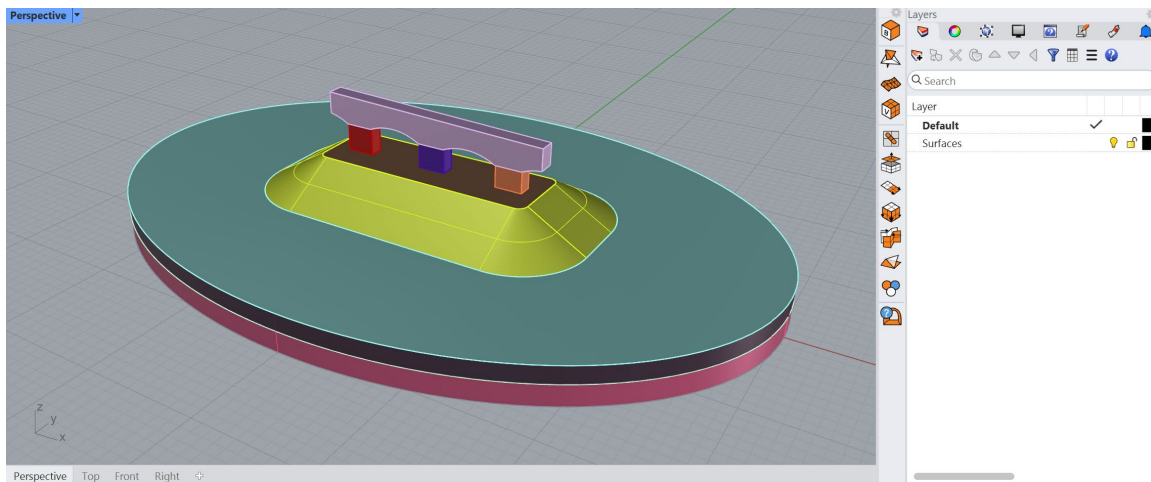
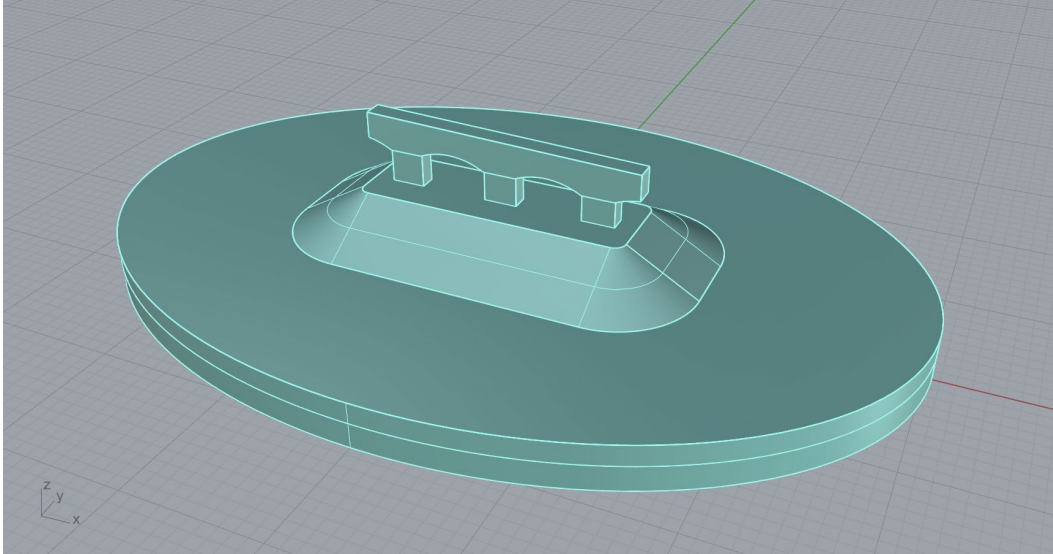

Figure 18: Model of a bridge support structure.
Figure 26: Single polysurface constructed by the NonManifoldMerge tool.
2. The model represents a part of a complex bridge support structure as shown in Figure 18. The model consists of 13 surfaces, seven polysurfaces, and two extrusions represented by BRep objects. Note how the objects are split by each other (e.g., the top sub-structure surface is split into three pieces); this is done for better meshing results.
The typical approach to construct meshes when starting with initial (poly)surfaces such as in Figure 18 consists of the following:¹
13. Select all objects in layer "Surfaces" (as in Figure 18) and use the tool **NonManifoldMerge** () to create a single non-manifold polysurface (Figure 26).